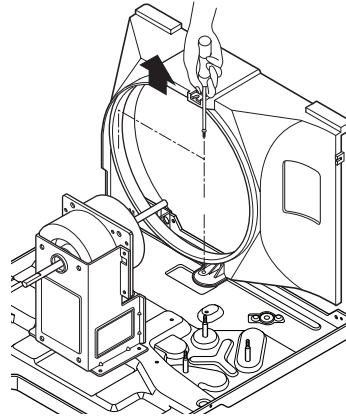

Figure 9
2. Remove the shroud. (See Figure 9)